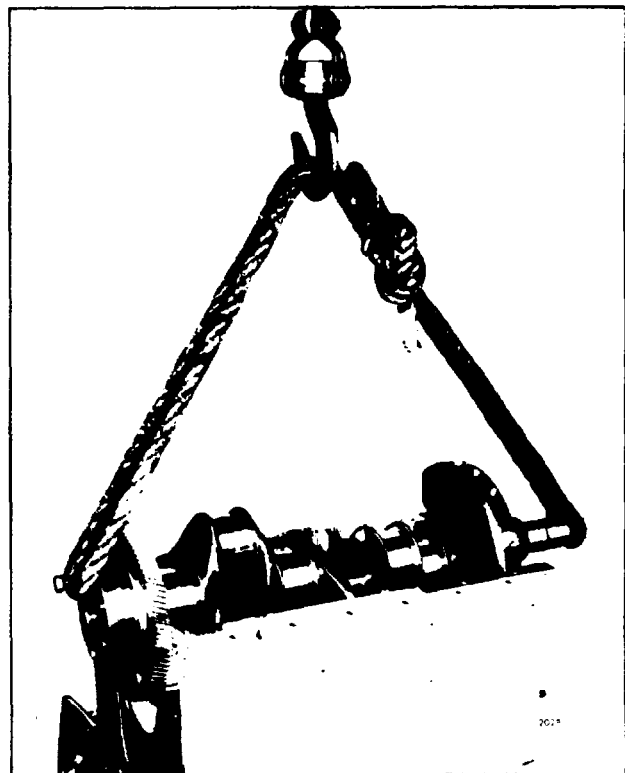

Fig. 3 Removing or Installing Crankshaft
19. Remove the crankshaft, including the timing gear (Fig. 3).